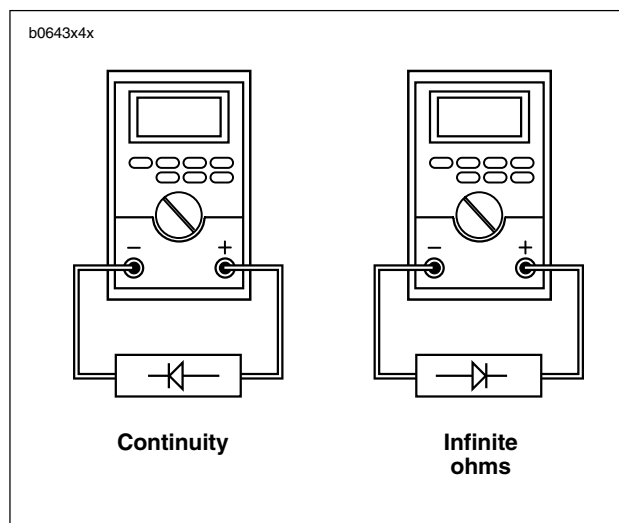

Figure 7-12. Ohmmeter Diode Test
2. Check diode with an ohmmeter as shown in Figure 7-12.